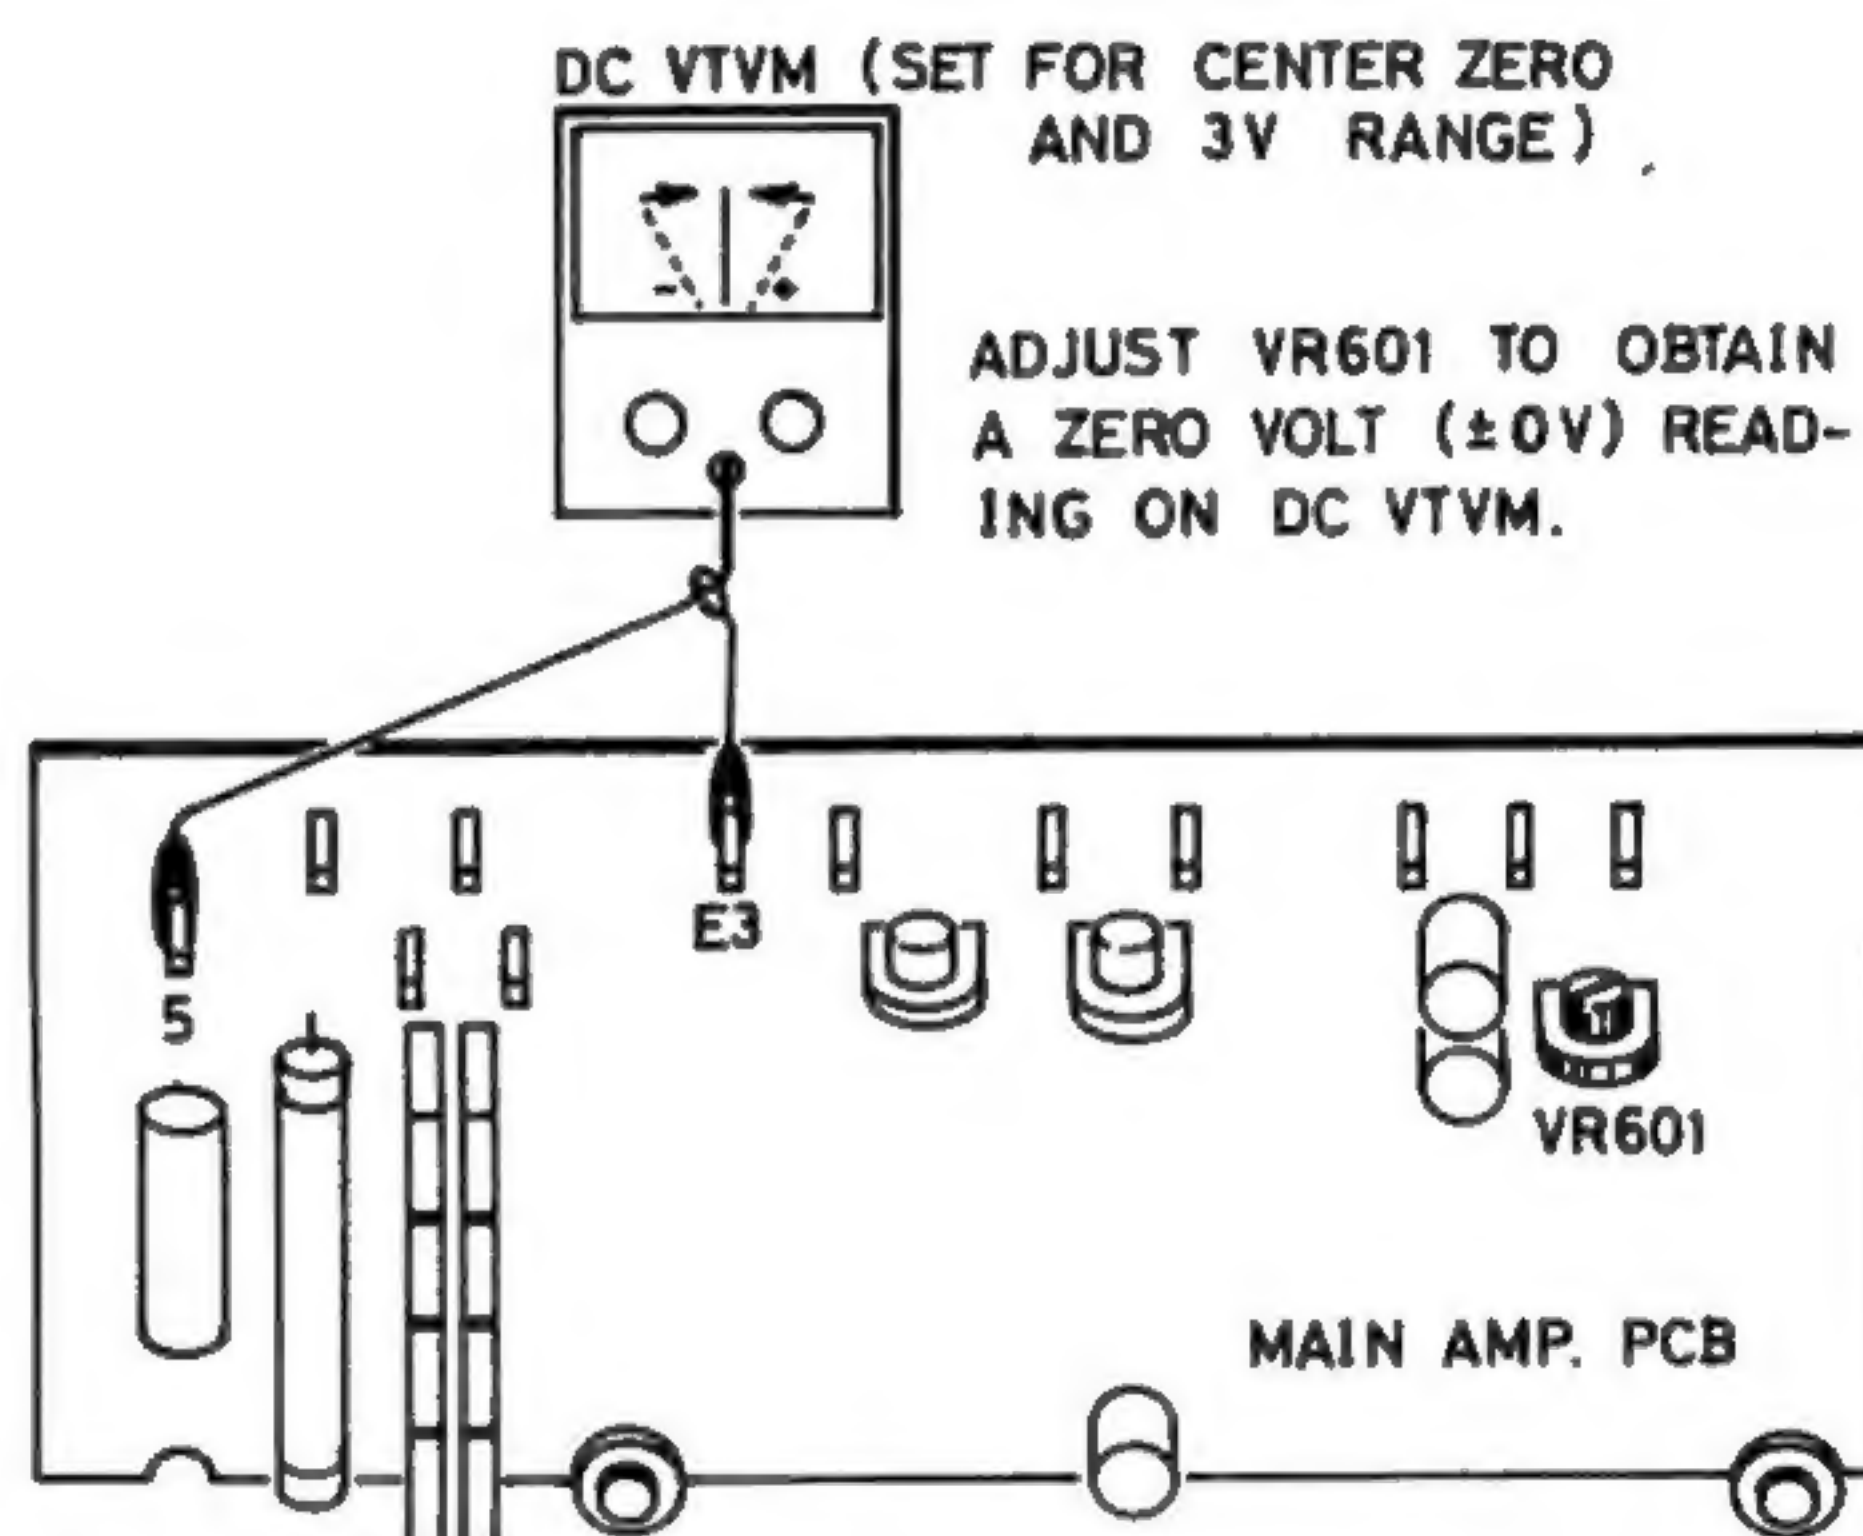

Fig.2 DC BALANCE ADJUSTMENT HOOK-UP
- b. Next, connect DC VTVM to Main Amp PCB. (Connect (+) lead wire to Pin5, and (-) lead wire to Pin E3.) See Fig. 2.